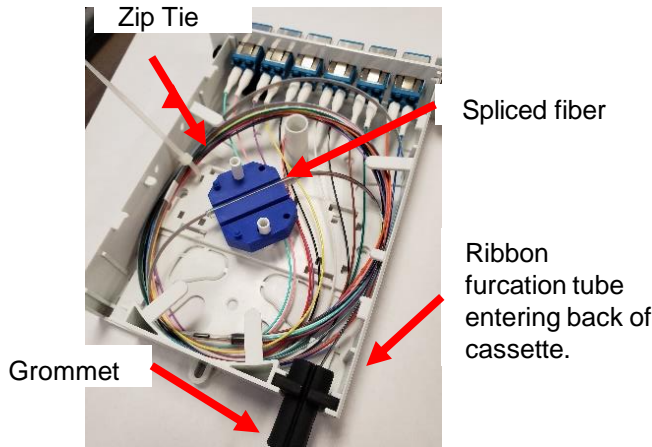

Figure 10
6.6 Place protected splice into splice sleeve module. Use zip ties and Velcro for cable organization around inside of cassette. Then, use grommet to hold furcation tubes entering into FOX cassette lid (see **Fig 10**)